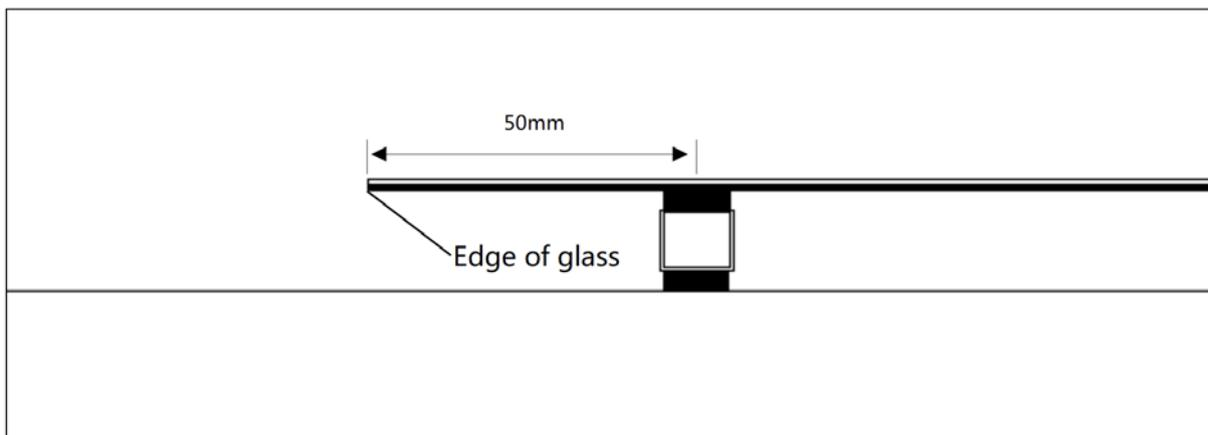

Figure 10
② The distance that the product overhangs beyond the rib at each end should not exceed 50mm. (Figure 10)